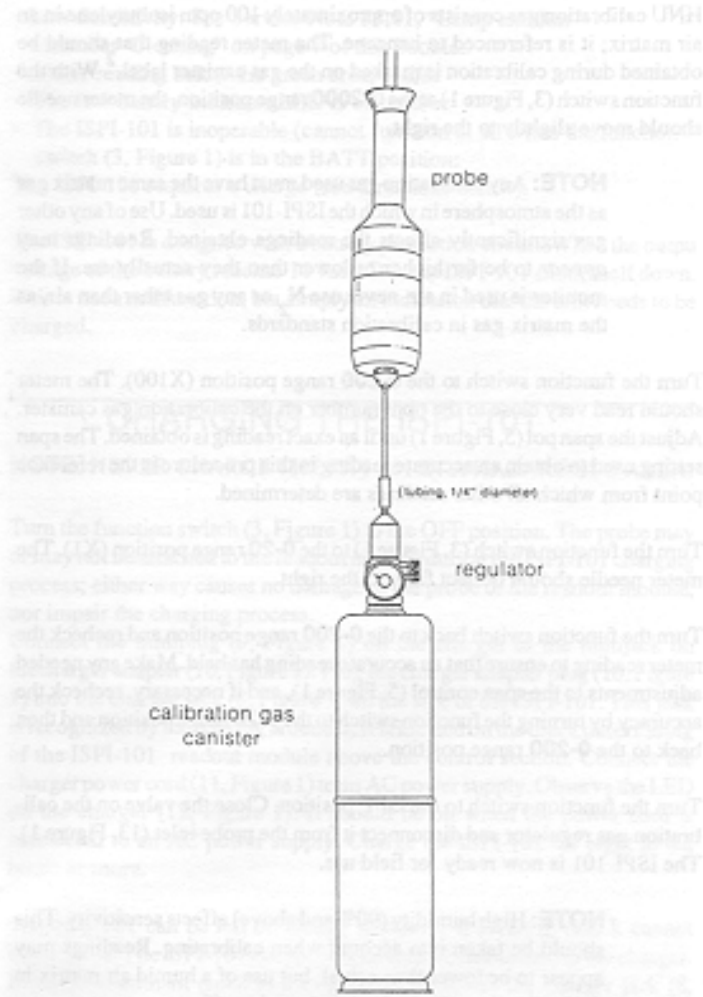

Figure 2
Check the span setting (1.0 for 9.5 eV lamps, 9.8 for 10.2 eV lamps, 5.0 for 11.7 eV lamps) and adjust as necessary using the span control (5). Connect the regulator to the calibration gas canister (see figure 2). Using flexible tubing (three inches long is sufficient, one quarter inch diameter), connect the calibration gas to the probe inlet (13, Figure 1), and open the valve on the regulator. Use of the probe extension (14, Figure 1) is optional during this procedure. Recheck the electronic zero and adjust as necessary.